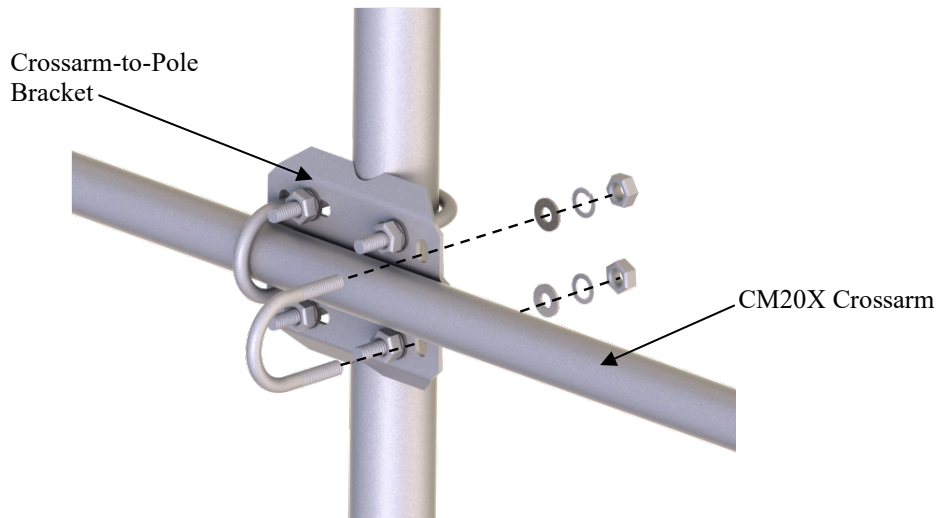

FIGURE 4-1. Mounting a CM20X crossarm with crossarm-to-pole bracket
1. Mount a 3.33 cm (1.31 in) outer diameter pipe or crossarm (such as a CM20X) to a tripod mast or tower as shown in FIGURE 4-1.